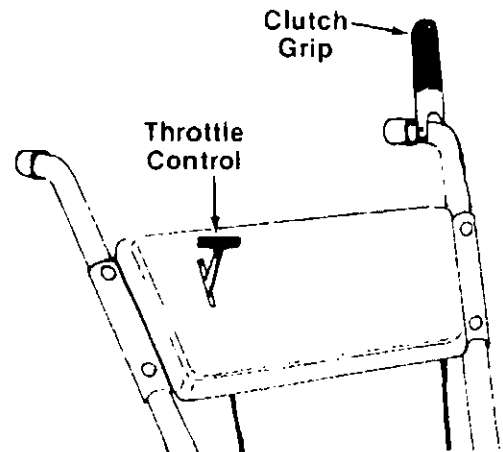

FIGURE 21.
1. Move the throttle control lever forward to "FAST" position. See figure 21.
Move control lever to "STOP" position. See figure 21.
To engage the tines, squeeze the clutch grip. To stop the tines, release the clutch grip. See figure 21.